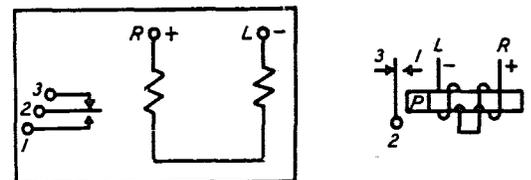

FIG. 19 - WINDING AND SPRING TERMINAL ARRANGEMENT AS VIEWED FROM THE REAR (TERMINAL SIDE)- 177 AND 203 TYPE RELAYS
2.36 As viewed from the front of the relay the front contacts are numbered 1 and 4, the travel springs (the springs picked up by the hard rubber bridge) 2 and 5 and the back contacts 3 and 6. The winding terminal designations as viewed from the terminal side are shown on Fig. 19. The designations + and - shown in Fig. 19 indicate which polarity of the battery should be connected to this point.